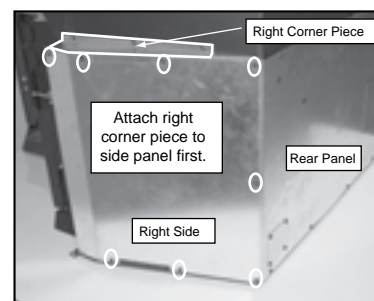

Figure 19.4
4. Assemble the right corner and right panel pieces using 4 screws prior to attaching to insert. **Figure 19.4.**
5. After assembly, attach the right shroud panel/corner piece assembly to the insert with 3 screws across the bottom and 1 on the side. **Figure 19.4.**